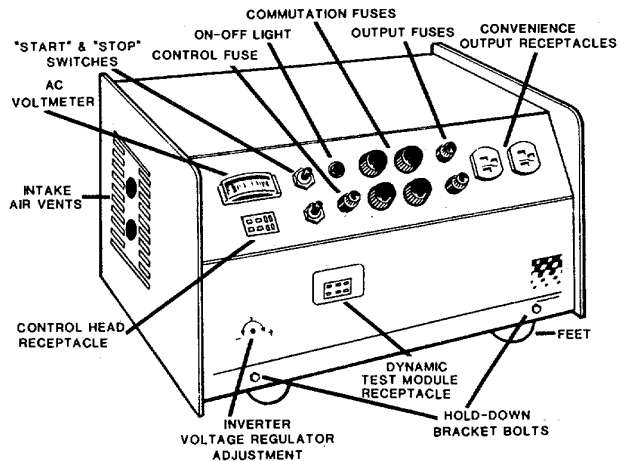

Figure 2.2.5A
2.2.5 Chassis Configuration - Shown on the following page in Figures 2.2.5A and 2.2.5B.